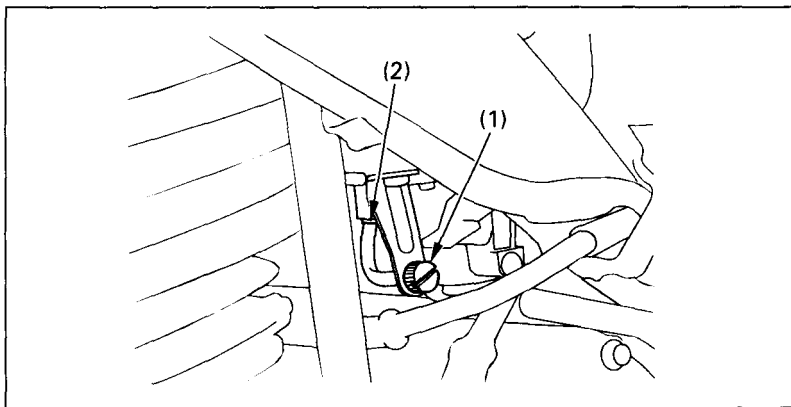

Fig. 4-8
2. Adjust idle speed by attaching a tachometer and using a screwdriver to turn the screwdriver by turning the throttle stop screw (Fig. 4-8).